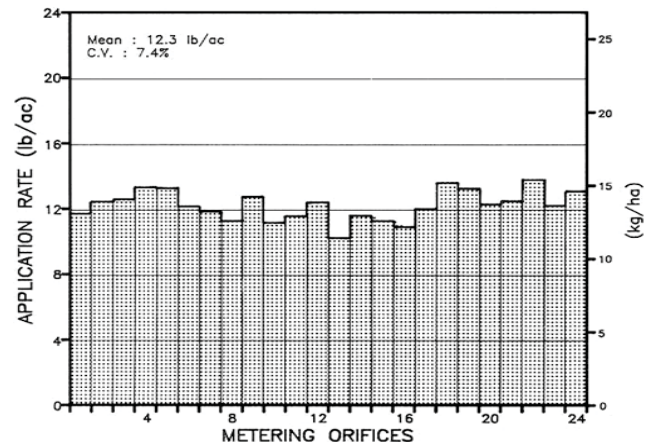

FIGURE 5. Variation in Delivery Rates from individual outlets when applying Avadex BW at 12.3 lb/ac (13.8 kg/ha) and a fan speed of 3000 rpm.
**Distribution Uniformity:** Uniformity of distribution of the application rate for the Flexi-coil granular applicator was good. FIGURE 5 shows the delivery rate for each of the 24 outlets while applying Avadex BW at a rate of 12.3 lb/ac (13.8 kg/ha) and a fan speed of 3000 rpm. Application rates from the individual outlets varied from 10.2 to 13.8 lb/ac (11.4 to 15.5 kg/ha) resulting in a coefficient of variation1 of 7.4 percent.